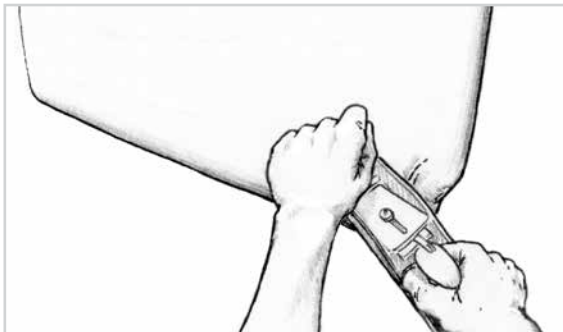

Figure 8-3 Plane or file the remainder of the bulge flush after you have forged as much as is practical.
4. Plane or file the remainder of the bulge flush after you have forged as much as is practical (Figure 8-3). For small areas, a body file works well. When greater amounts of